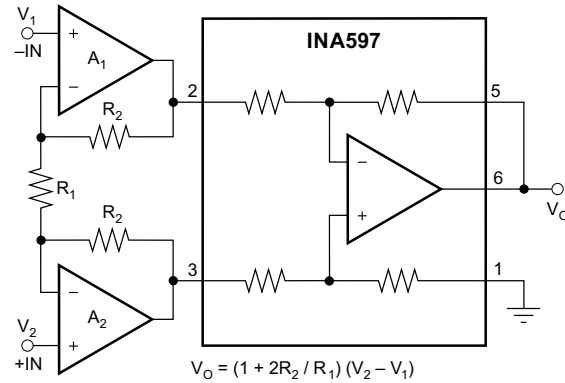

图 78. Precision Instrumentation Amplifier
The INA597 measures voltages beyond the rails. For the $G = \frac{1}{2}$ and $G = 2$ difference amplifier configurations, see the input voltage range in the Specifications section for details. The INA597 can be configured in several ways; see Figure 78 to Figure 82. These configurations rely on the internal, matched resistors; therefore, all of these configurations have excellent gain accuracy and gain drift.
The INA597 can be combined with op amps to form a complete instrumentation amplifier (IA) with specialized performance characteristics, as shown in 图 78.